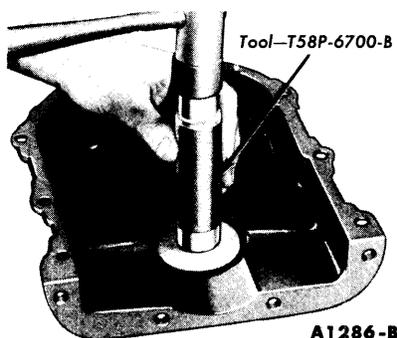

FIG. 53—Oil Seal Installation
2. Coat a new seal with grease, then install the seal (Fig. 53). Drive the seal in until it is fully seated in the recess. Check the seal after installation to be sure the spring is properly positioned in the seal.